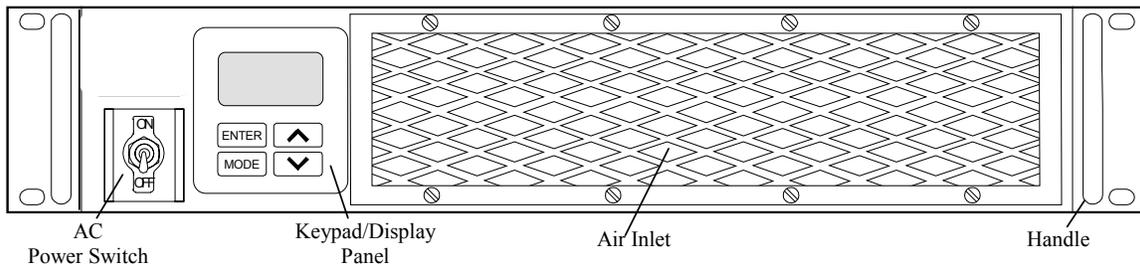
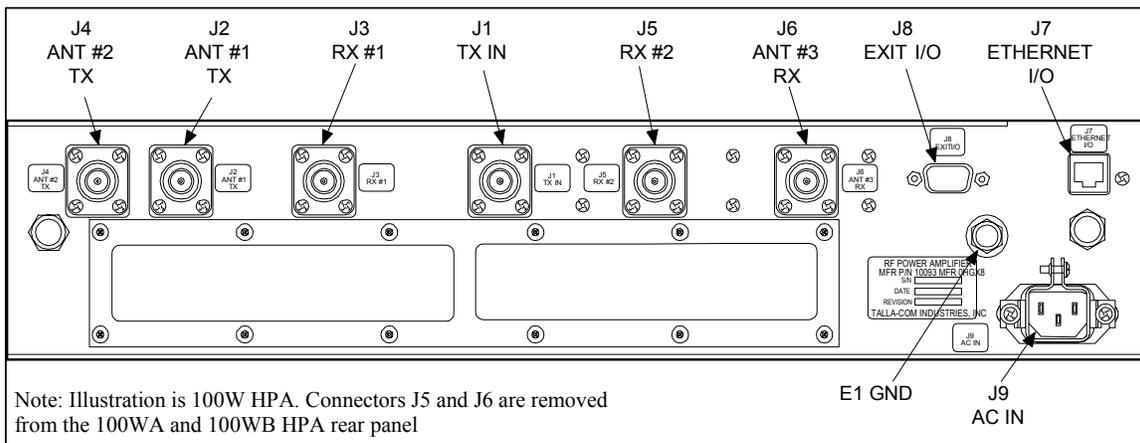
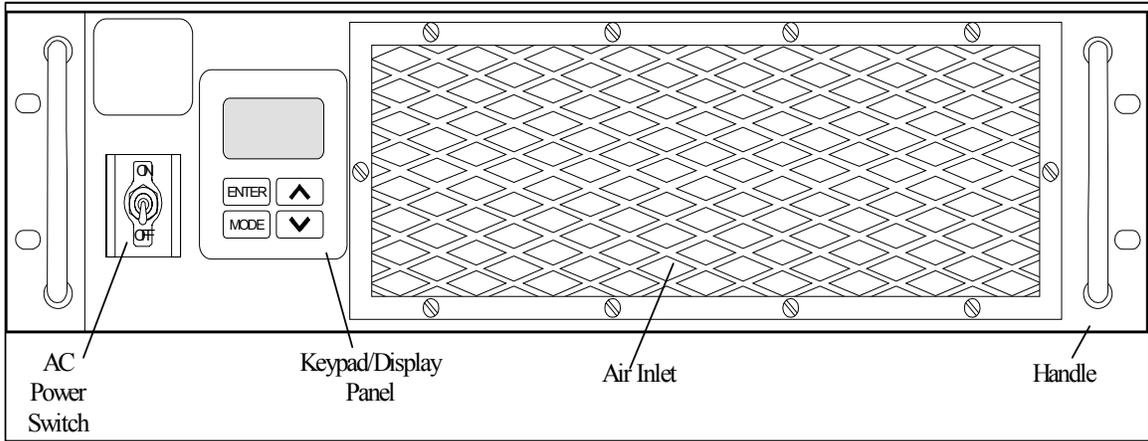
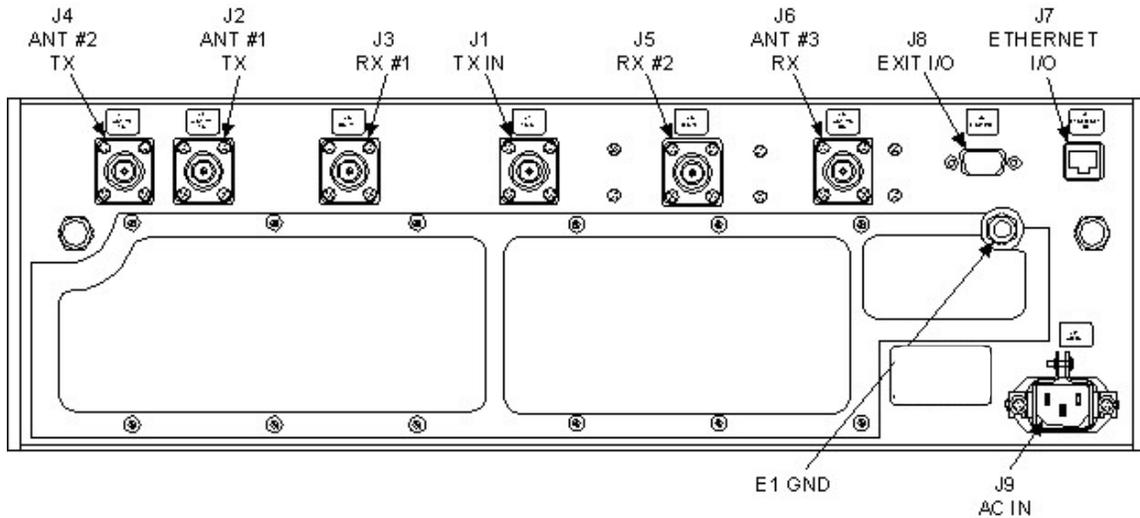

Figure 2 Representative Front Panel, 100W 100WA, and 100WB Power Amplifiers
Figure 3 Representative Rear Panel, 100W, 100WA, and 100WB Power Amplifiers
Figure 4 Representative Front Panel, 200W Power Amplifier
Figure 5 Representative Rear Panel, 200W Power Amplifier
Figure 2 and Figure 3 are representative illustrations of the 100W, 100WA, and 100WB HPA front and rear panels. Figure 3 illustrates the 100W HPA rear panel configuration. Per DMR Appendix J, the 100W PA rear panel has six (6) RF connectors (J1– J6). The 100WA and 100WB HPA rear panels are physically similar to the 100W HPA. Per DMR Appendix K, the 100WA and 100WB HPA rear panel has four (4) RF connectors (J1– J4).
Figure 4 and Figure 5 are representative illustrations of the 200W HPA front and rear panels. Per DMR Appendix J, the 200W PA rear panel has six (6) RF connectors (J1– J6).
Per DMR Appendix J, the DMR VHF/UHF 100W and 200W HPAs have nine (9) electrical connectors. Per DMR Appendix K, the DMR 100WA and 100WB HPAs have seven (7) electrical connectors. All DMR HPAs have a single chassis ground stud (Table 3). All connectors are located on the HPA rear panel (Figure 3, Figure 5). Connector labels are representative.